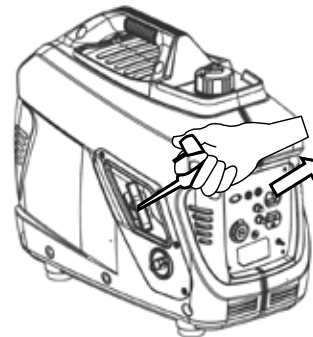

Figure 8: Pull the Recoil Handle away from Inverter
4. Firmly grasp and pull the recoil handle slowly until you feel increased resistance. At this point, apply a rapid pull while pulling out from the inverter (see Figure 8).